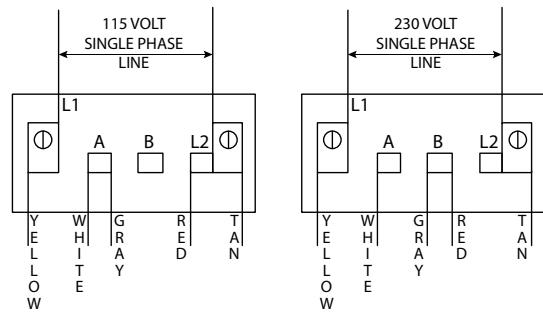

Figure 8 - F&W Wiring Diagram for Single Phase
WARNING Use wire size specified in wiring Chart E. If possible, connect pump to a separate branch circuit with no other appliances on it. If wiring diagram on motor model plate differs from diagram shown in figures 8, 8A, 9, 10, 11 & 12 follow diagram on motor.
2. To change voltage, remove the rear access cover, which is held in place with two (2) screws. For proper electrical connection, refer to the connection diagram located on the motor nameplate or figures 8, 8A, 9, 10, 11, 12.